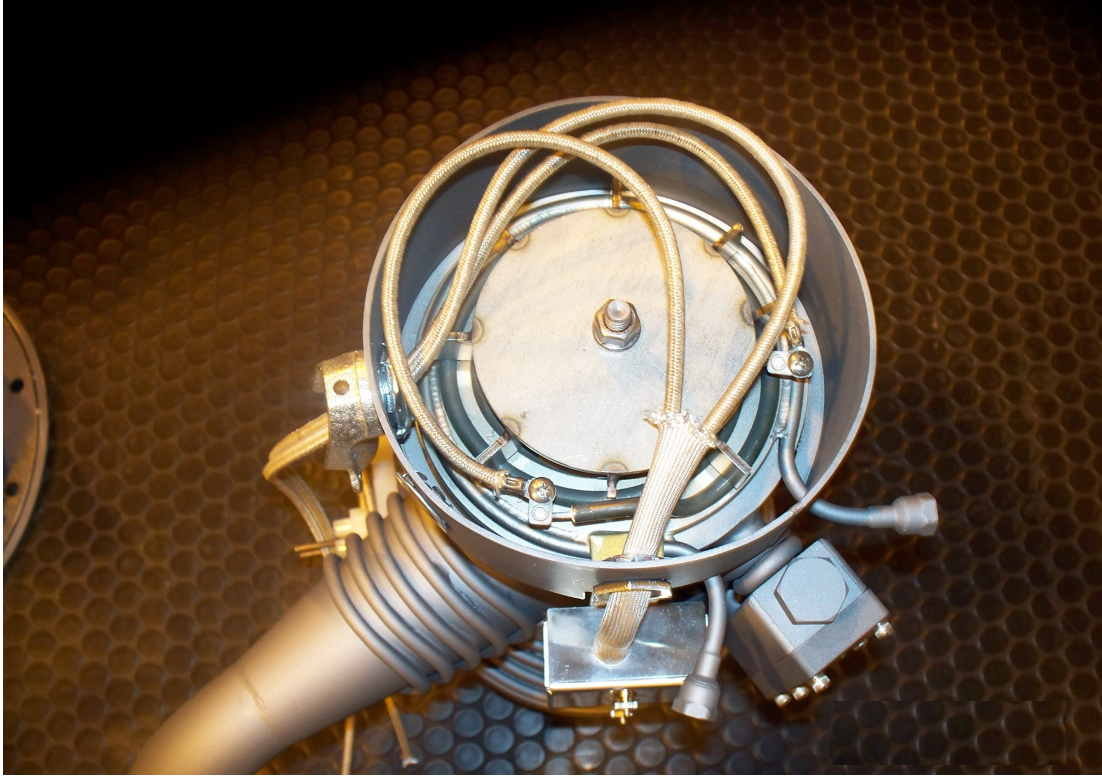

Figure 3-8 VHS-4 Heater Mounting
9. Support the heater unit by the heater clamp, line up the hole with the boiler stud, and push the unit up against the boiler plate. Refer to Figure 3-7 on page 43, Figure 3-8 on page 44 or Figure 3-9 on page 45.